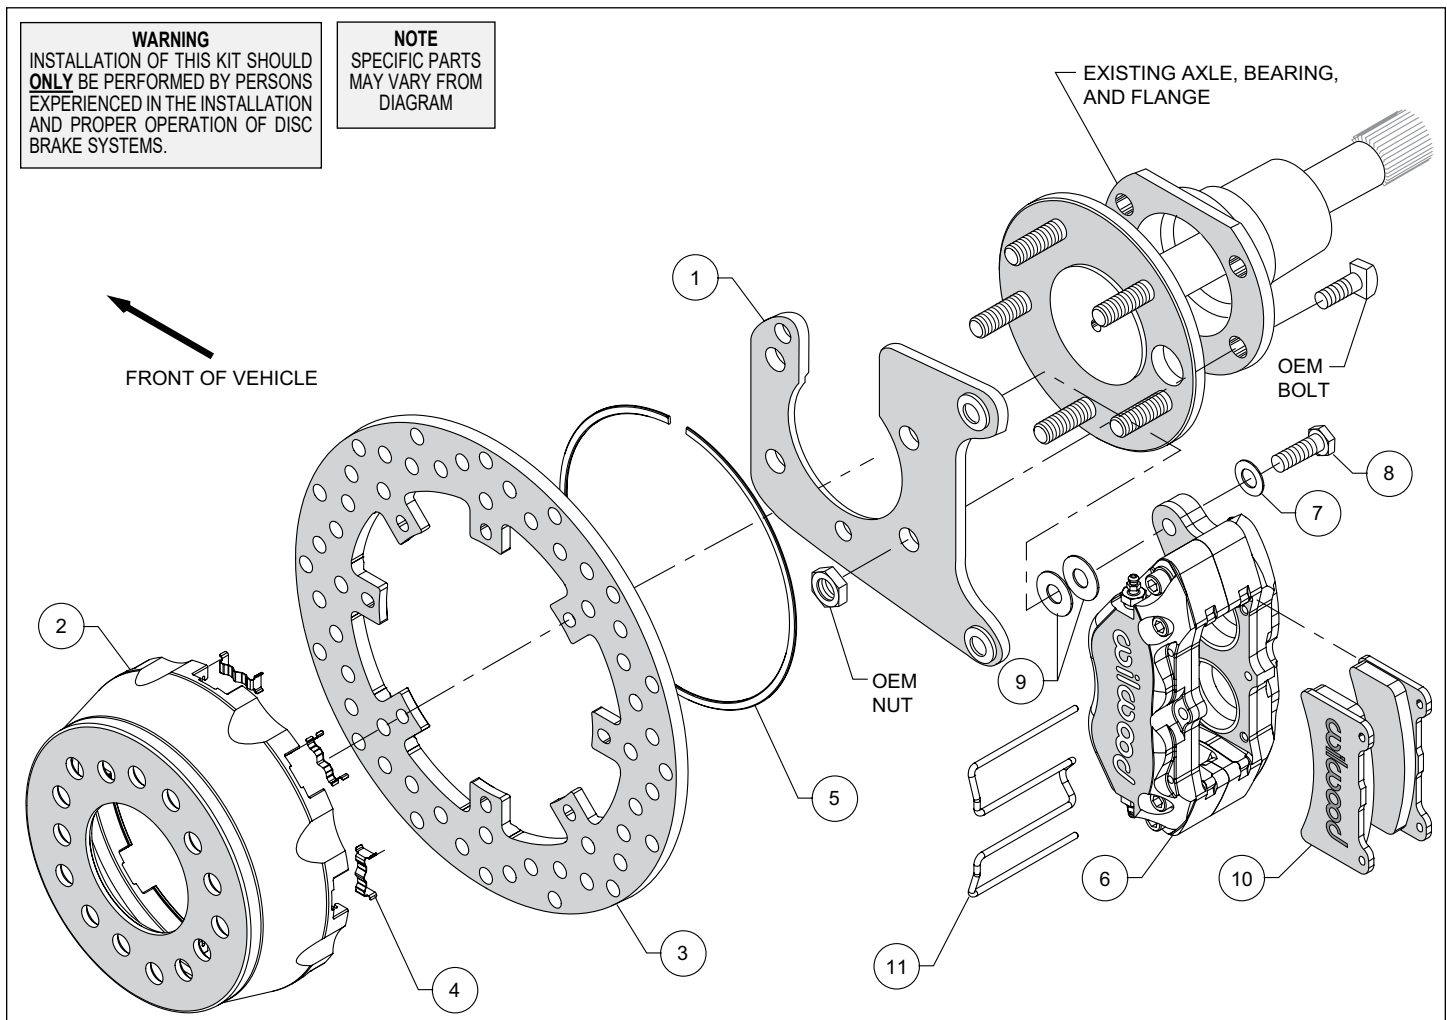
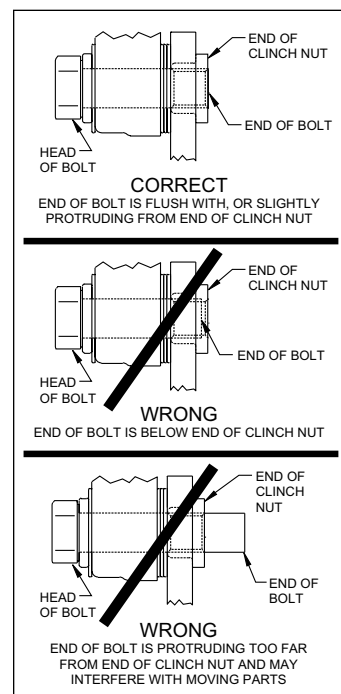

Figure 1. Typical Installation Configuration
Figure 5. Clinch Nut Engagement Diagram
Assembly Instructions (numbers in parenthesis refer to the parts list and Figure 1 on the preceding pages): **CAUTION:** All mounting bolts must fully engage clinch nuts. Be sure to check that all bolts are either flush or protruding through flanged side of clinch nut after shimming, Figure 5.
- Install the caliper mounting bracket (1), with the slot for the axle pointing upward, to the housing flange using the OEM bolts and nuts, as shown in Figure 1 and Photo 1. Ensure that the heads of the clinch nuts are facing outboard, Photo 1. Apply red *Loctite*® 271 to the OEM bolt threads and torque to OEM specifications.
- Insert the dynamic mount wear plates (4) into the slots in the hat (2) making sure the tabs snap in place, Photo 2. Orient the rotor (3) as shown in Figure 1 and Photo 3, with the flush mount tab side facing the hat. Attach the rotor to the hat using snap ring (5) by pushing down on the rotor and installing the ring into the groove in the hat, as shown in Photo 4. Ensure that the ring is fully engaged in the groove.
- Align the correct hole pattern in the hat (2) with the axle stud pattern and slide the hat/rotor assembly onto the axle hub. **NOTE:** The hat must fit flush against the axle flange or excessive rotor run out may result. Install three lug nuts (finger tight) to keep the hat/rotor in place while continuing with the installation. **NOTE:** Some OEM and aftermarket axles come with stud sizes larger than 0.50" diameter. Verify stud size, and if necessary, have a qualified machine shop drill the hats to the correct size.
- NOTE:** Please reference the caution statement at the beginning of the assembly instructions. Mount one caliper (6) onto the mounting bracket (1) using bolts (8) and washers (7), as shown in Figure 1. Initially place two .035" thick shims (9) on each bolt between the caliper and the bracket, Photo 5. Temporarily tighten the mounting bolts and view the rotor (3) through the top opening of caliper. The rotor should be centered in the caliper, Photo 6. If not, adjust the caliper by adding or subtracting shims between the bracket and the caliper. Always use the same amount of shims on each of the two mounting bolts. **NOTE:** The end of each bolt must be flush with or slightly protruding from the head of the clinch nut. If necessary, place spare shims between washer and caliper mounting ear to achieve the proper clinch nut engagement, as shown in Figure 5. Once the caliper alignment and clinch nut engagement are correct, remove the bolts one at a time, apply red *Loctite*® 271 to the threads, and torque to 40 ft-lb.